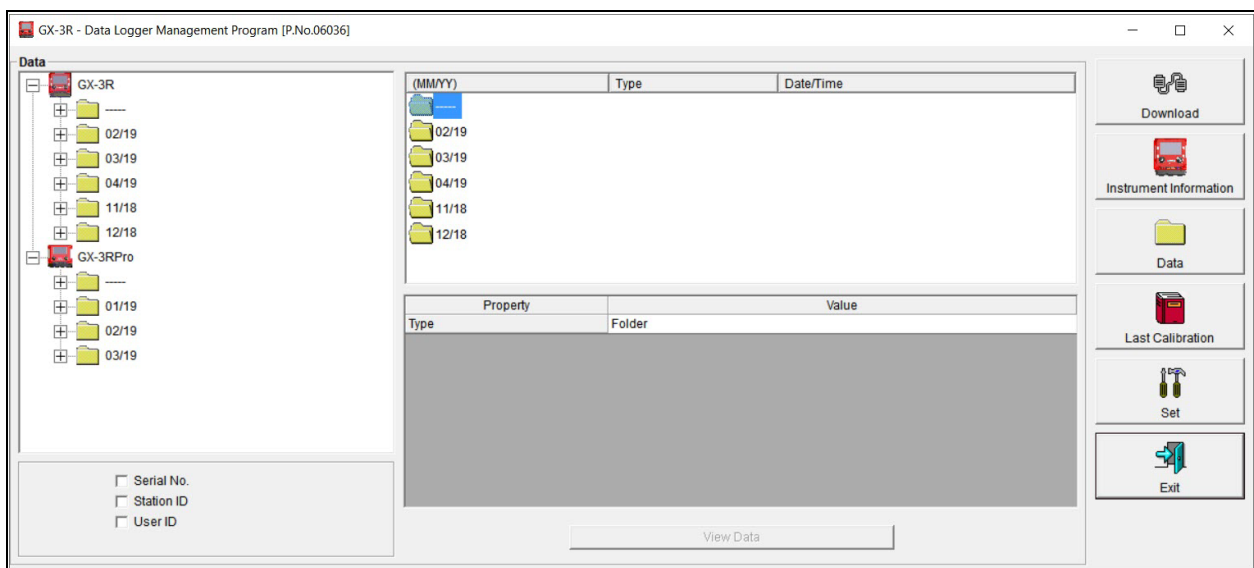

Figure 13: Data Window
2. Click the selection box or boxes in the lower left frame to organize the data as desired. The data may be organized by one or more of the following parameters: serial number, station ID, or user ID. If none of the boxes are selected, then the data is organized as shown in Figure 13.